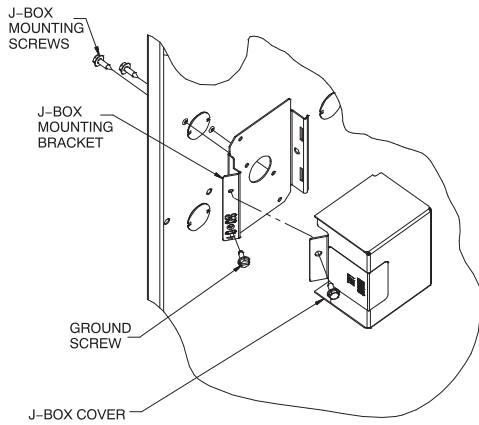

Fig. 35 – Installing J-Box (When Used)
The J-Box cover, mounting bracket and screws are shipped in the loose parts bag included with the furnace. See Fig. 35 for J-Box mounting locations.
1. Install J-Box mounting bracket to inside of furnace casing. See Fig. 35.
- Connect field ground wire and factory ground wire to green ground screw on J-Box mounting bracket as shown in Fig. 35.
- Attach furnace J-Box cover to mounting bracket with screws supplied in loose parts bag. Do not pinch wires between cover and bracket. See Fig. 35.
- Install J-Box mounting bracket to inside of furnace casing. See Fig. 35.